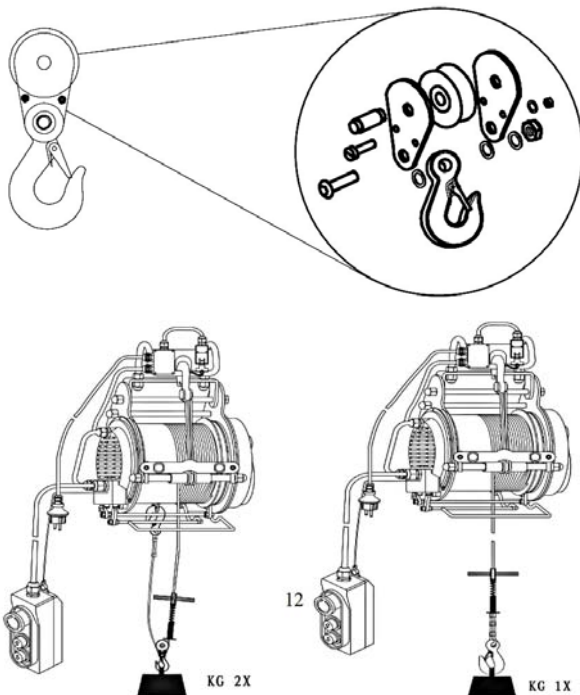

Fig. 7: Operation with pulley (left)
Step 2: Connect the load hook on the steel cable into the suspension device on the housing (Fig. 7 bottom left).